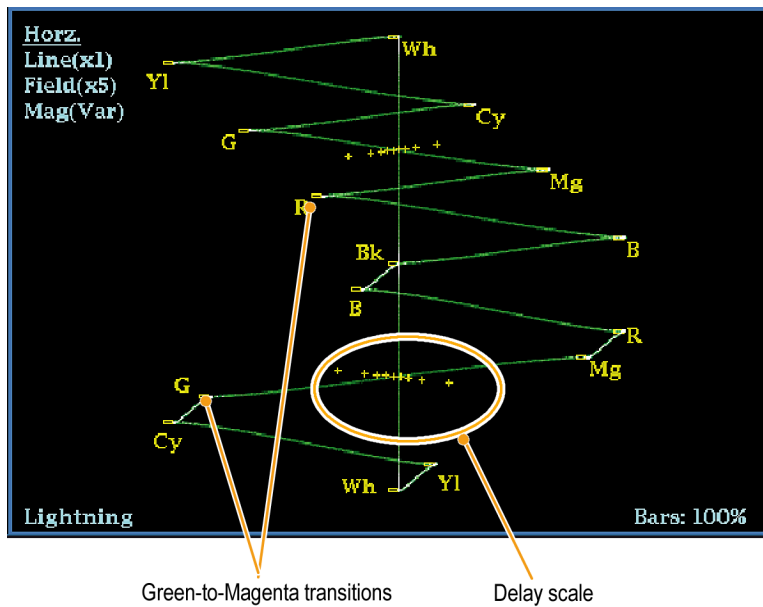

Figure 55: Determining transition intersections in the Lightning display
7. Determine where transitions intersect the delay scales and derive the timing error in nanoseconds, as deflected from the center mark, using the following guidelines. (See Figure 55.)